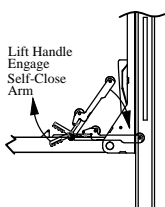

Figure 10: Step 11.
- Step 11. To close the platform, stand to the passenger's side of the platform, not under or behind the platform. With the platform lowered, move the retention ramp to the travel position, then lift the handle of the self-close arm with your hand to engage the self-close arm (Figure 10).